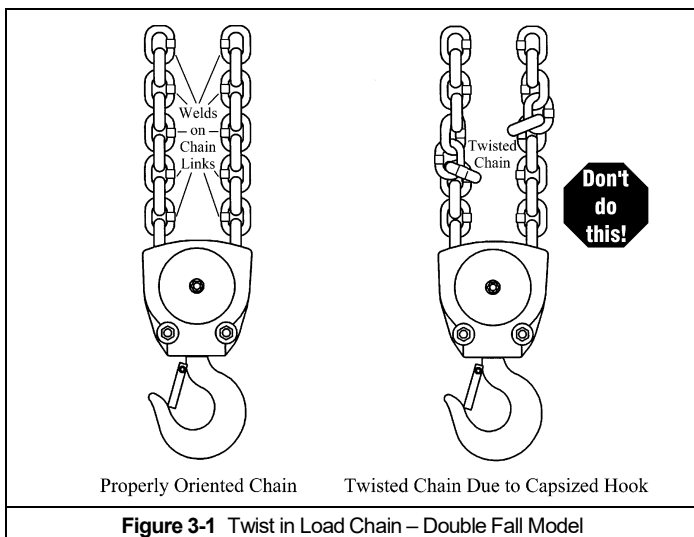

Figure 3-1 Twist in Load Chain – Double Fall Model
- 3.1.1 **⚠ WARNING** Verify that the load chain is not twisted or tangled prior to operating the hoist. Make sure the bottom hook on the 1 ton (CX010) multiple fall hoist is not capsized. See **Figures 3-1** and **3-2**. You can also use a twist checker (see 3.1.2 to check for twists). Correct all chain irregularities before conducting the first hoist operation.